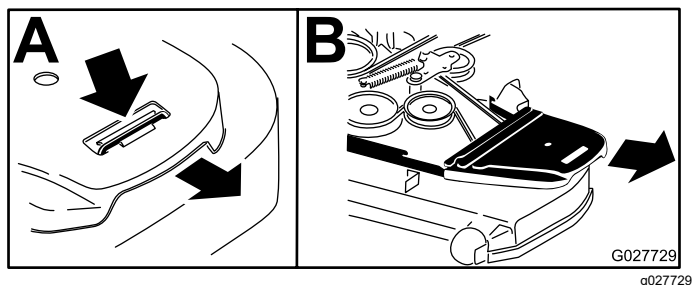

Figure 97
- Remove the belt covers (Figure 97).